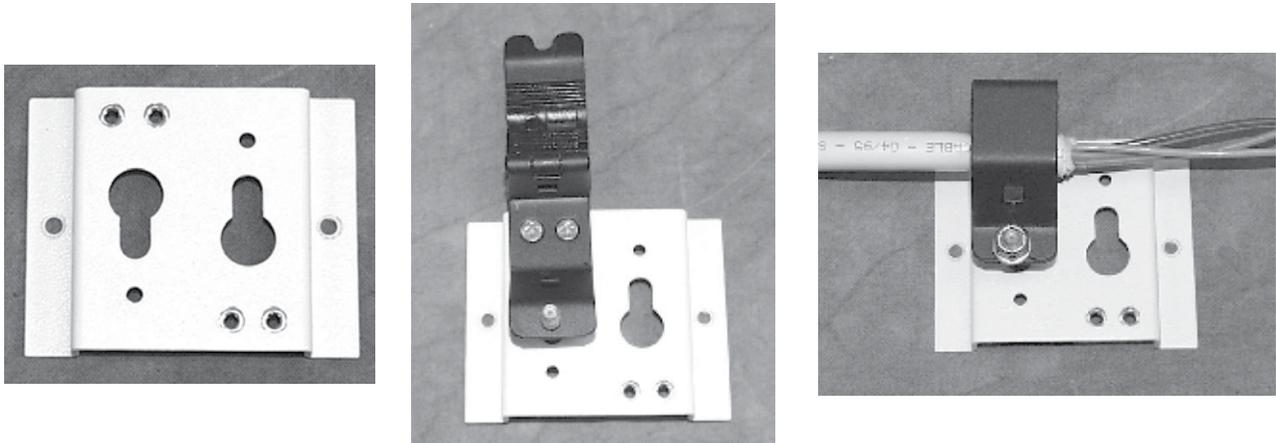

Figure 9
Step 2: Attach the clamshell cover/base assembly as shown in Figure 9 using the supplied hardware.